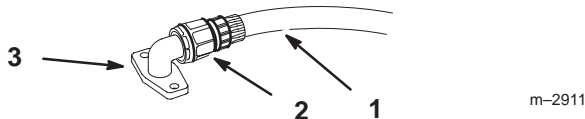

Figure 1
- Attach coupling and fitting to hose (Fig. 1).